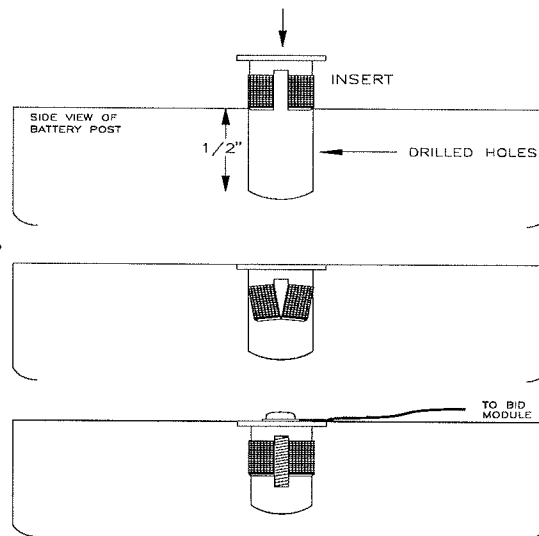

FIGURE 3
- Place an insert above each hole and tap lightly with a wooden or rubber mallet until the insert is flush with the cell. See figure 3.